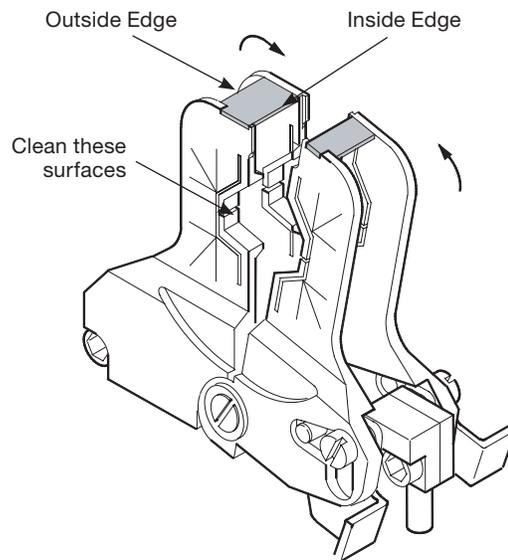

Figure 25 *Checking / Replacing the Insulator Tape*
2. If applicable, check the fixture insulating tape for damage. Replace the tape if it is loose or torn, exposing the metal under it. See Figure 25.
- c. Apply one end of the pre-cut tape strip to the inside edge of the underside surface. The tape should wrap in the direction shown in Figure 25.